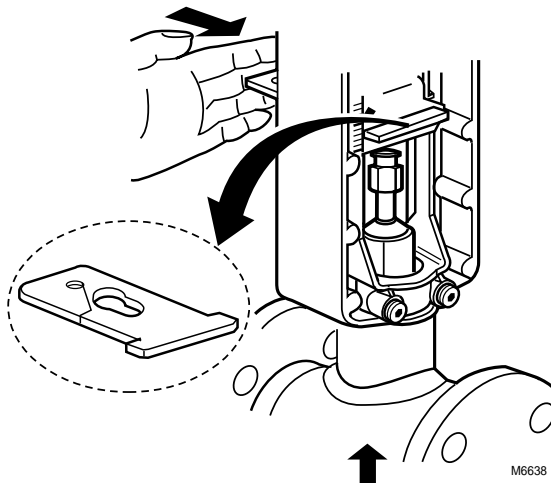

Fig. 3. Attaching actuator to valve stem.
- 2 Push in the stem button retaining clip and hold. See Fig. 3.